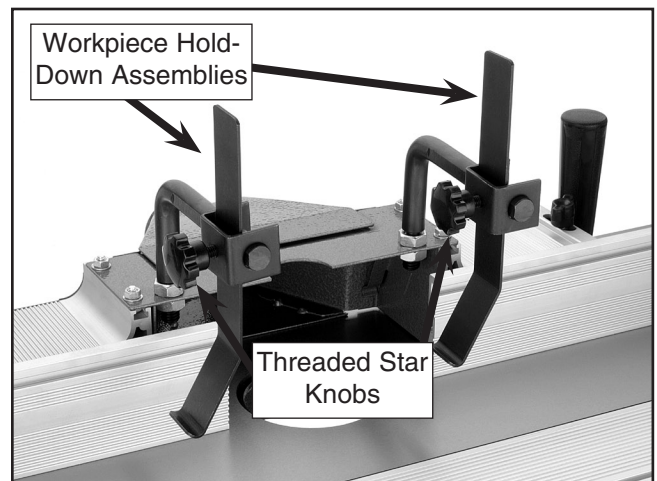

Figure 10. Installed hold-down assemblies.
4. Secure the hold-down finders to the hold-down brackets by tightening the threaded star knob (**Figure 10**). *Note—Do not worry about precise placement of the hold-down brackets or fingers at this time.*